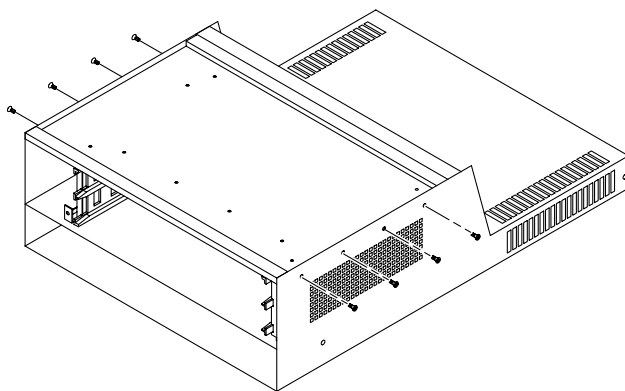

FIGURE 7-9 Removing Controller Card Cage Screws
- a. **Remove the eight screws that hold the card cage to the chassis (FIGURE 7-9).**
- 7. Secure the eight screws that hold the controller card cage in the chassis (FIGURE 7-9).**